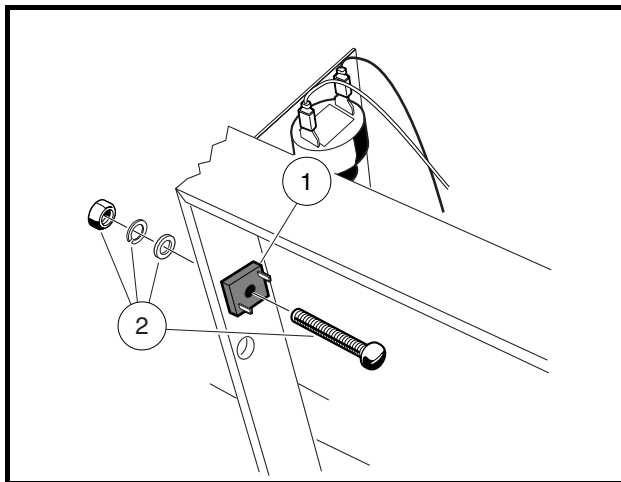

Figure 13-29 Voltage Limiter
4. Disconnect wires from the voltage limiter (1). Do not allow wires to touch (**Figure 13-29, Page 13-28**).
1. Mount the voltage limiter to the frame using the mounting hardware and tighten to 25 in-lb (2.8 N·m) (**Figure 13-29, Page 13-28**).